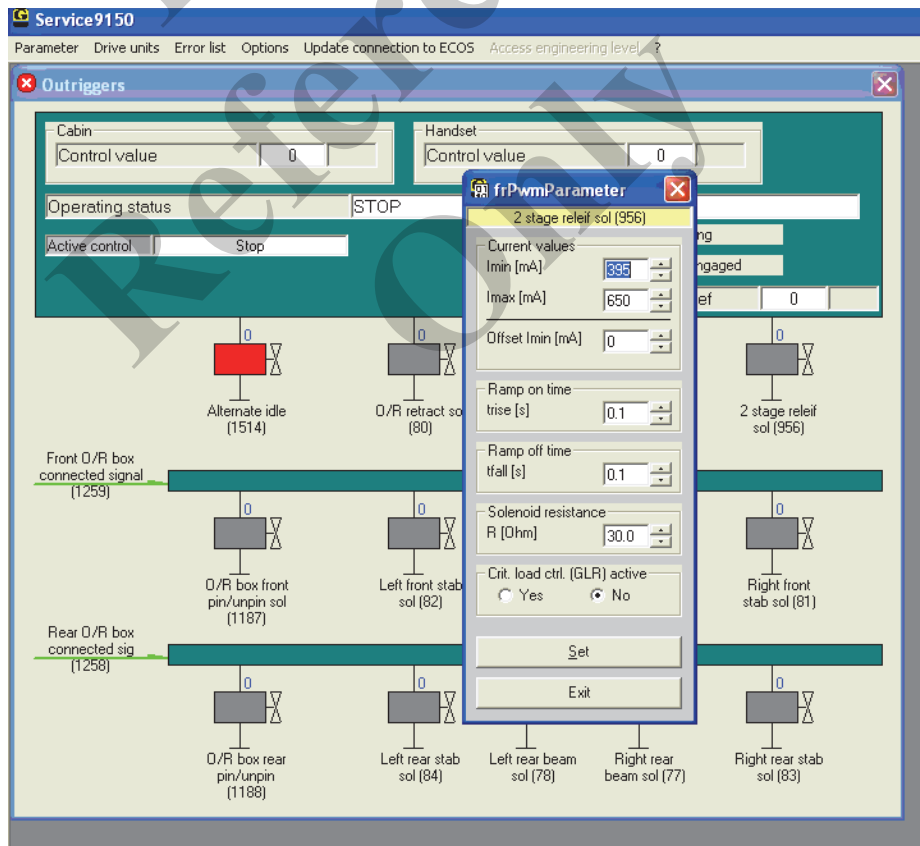

FIGURE 2-12
3. Select the outrigger “extend” and an outrigger “beam” switch on the superstructure controls. Fully extend and hold. Adjust the electric relief valve using the service software (Figure 2-12) through (Figure 2-14) to limit load sense pressure so that a gauge pressure of  $2000 \pm 50$  psi ( $138 \pm 4$  bar) is achieved. Increasing the I-min value increases the pressure. The I-max value should not be changed.
- Once connected to the service junction, turn on the laptop and select the RT9150E service software icon (Figure 2-12).